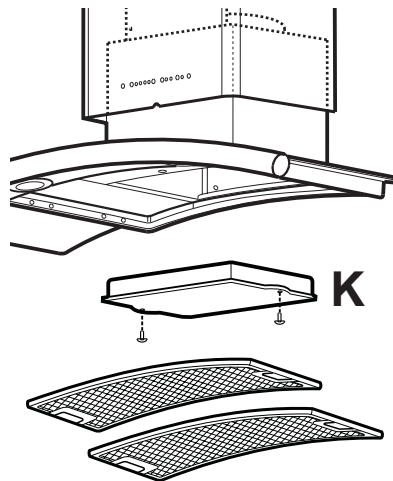

Fig. 2
- Remove the grease filters and remove the Charcoal Filter **K** from its housing by unscrewing the two screws that fix it to the hood. Refit the grease filters. **Fig. 2**.